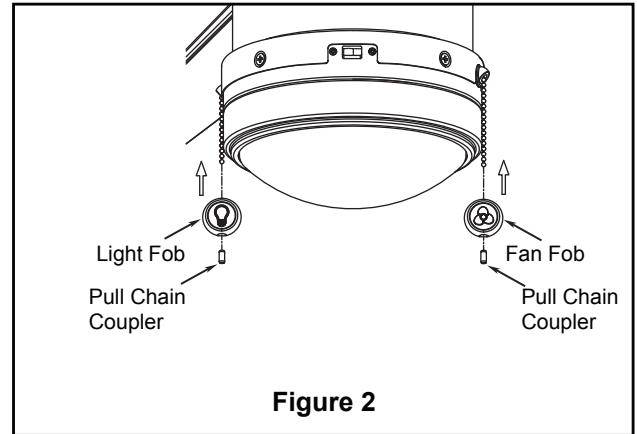

Figure 2
2. Remove the four screws in the switch cover/light kit assembly. Retain these screws for Step 4. (Figure 2)
2. Install the fan fob and the light fob with pull chain coupler. (Figure 2)